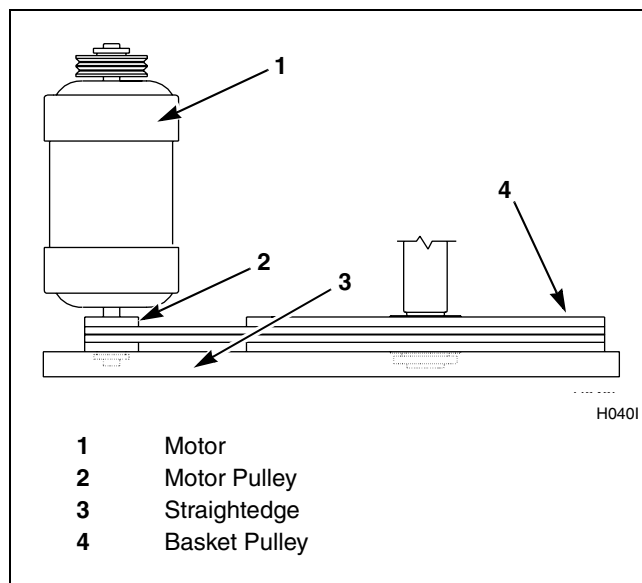

Figure 15
- b. For groove-pulley drive systems, verify alignment by placing a straightedge across both pulley faces. The straightedge should make contact with the pulleys in four places. Refer to *Figure 15*.